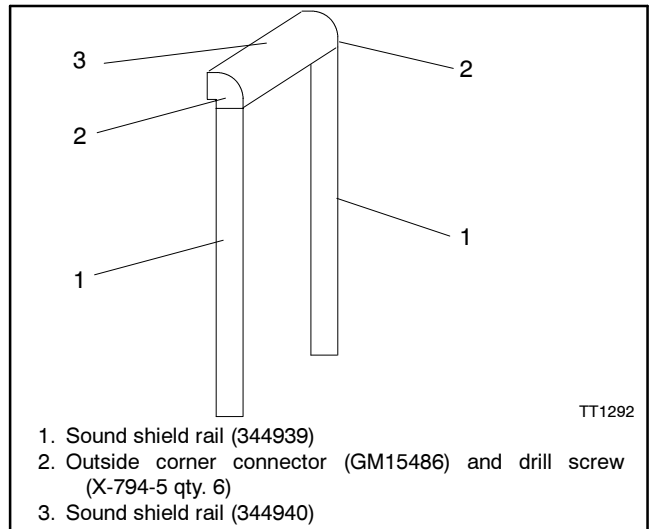

Figure 11 Rail Framework
8.4 See Figure 11. Construct a subassembly containing the following components: